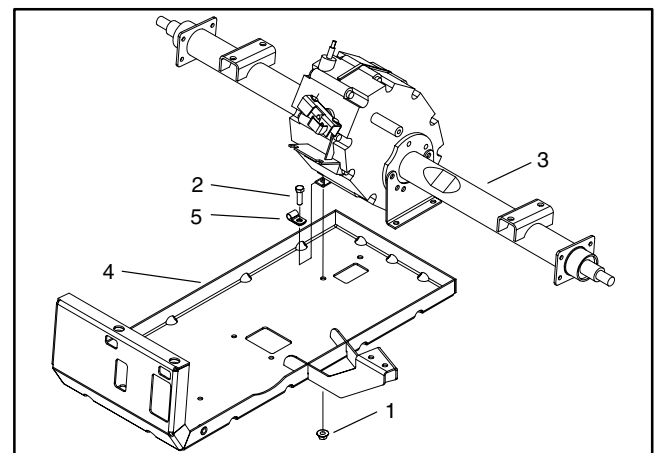

Figure 24
11. Remove four flange lock nuts and hex head flange screws securing the transaxle to the engine mount (Fig. 24).
3. Secure transaxle to the engine mount with four hex head flange screws and flange lock nuts. Make sure R-clamp with both shift cables is secured to the engine mount with screw (Fig. 24).